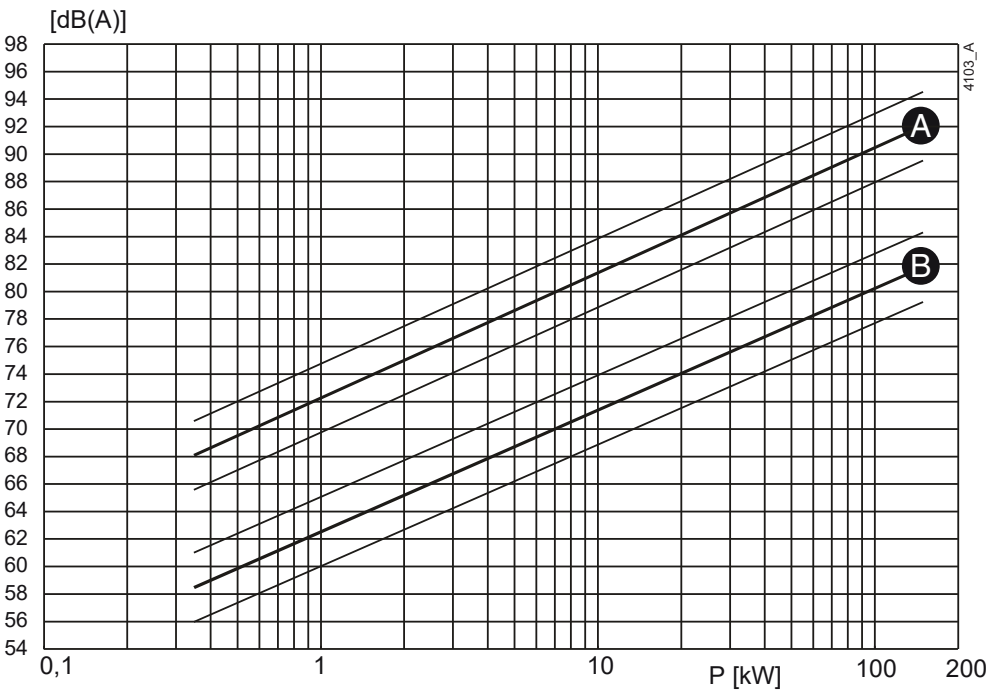
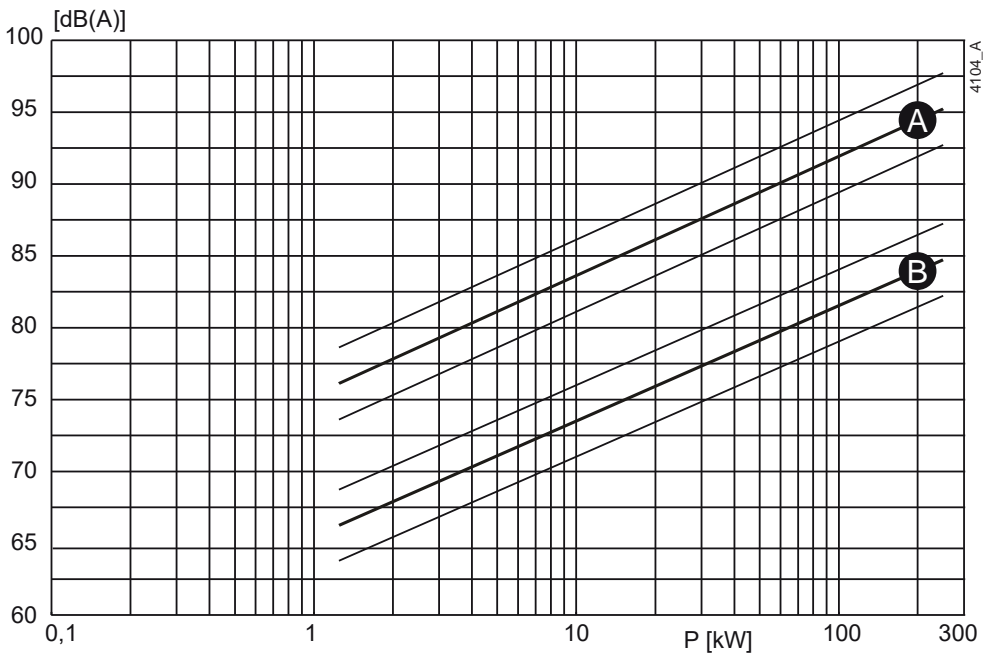

Figure 60: Noise level as function of pump power [kW] at 1450 min^{-1}
Figure 61: Noise level as function of pump power [kW] at 2900 min^{-1}
- 1 Determine the noise level (L1) of the pump, see figure 60 or figure 61.